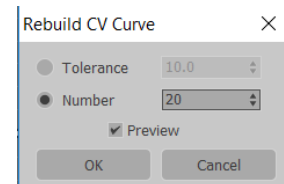

Figure 15-84 The *Rebuild CV Curve* dialog box
6. Select the **Curve** sub-object level. Next, select the curve in the viewport. Now, choose the **Rebuild** button in the **CV Curve** rollout; the **Rebuild CV Curve** dialog box is displayed. Now, set **20** in the spinner next to the **Number** radio button, refer to Figure 15-84. Next, choose the **OK** button. Click on the **Curve** sub-object level to deactivate it.